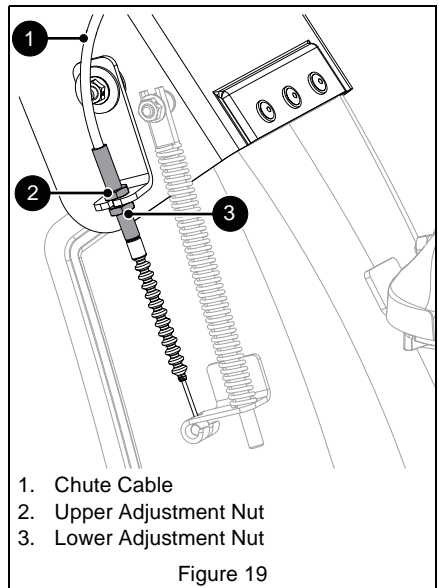

Figure 19
2. Adjust nuts on chute cable. See Figure 19.